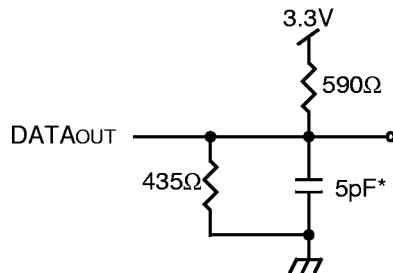

Figure 2. Output Test Load
1. Transition is measured ±200mV from Low or High-impedance voltage with load (Figure 2).
1. Transition is measured $\pm 200\text{mV}$ from Low- or High-impedance voltage from the Output Test Load (Figure 2).